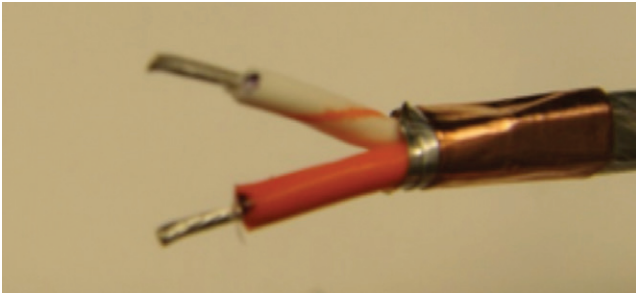

Figure 54: Stripping primary
15. Using 24-gauge hand strippers, strip each primary (Figure 54). If necessary re-tin the primary ends.